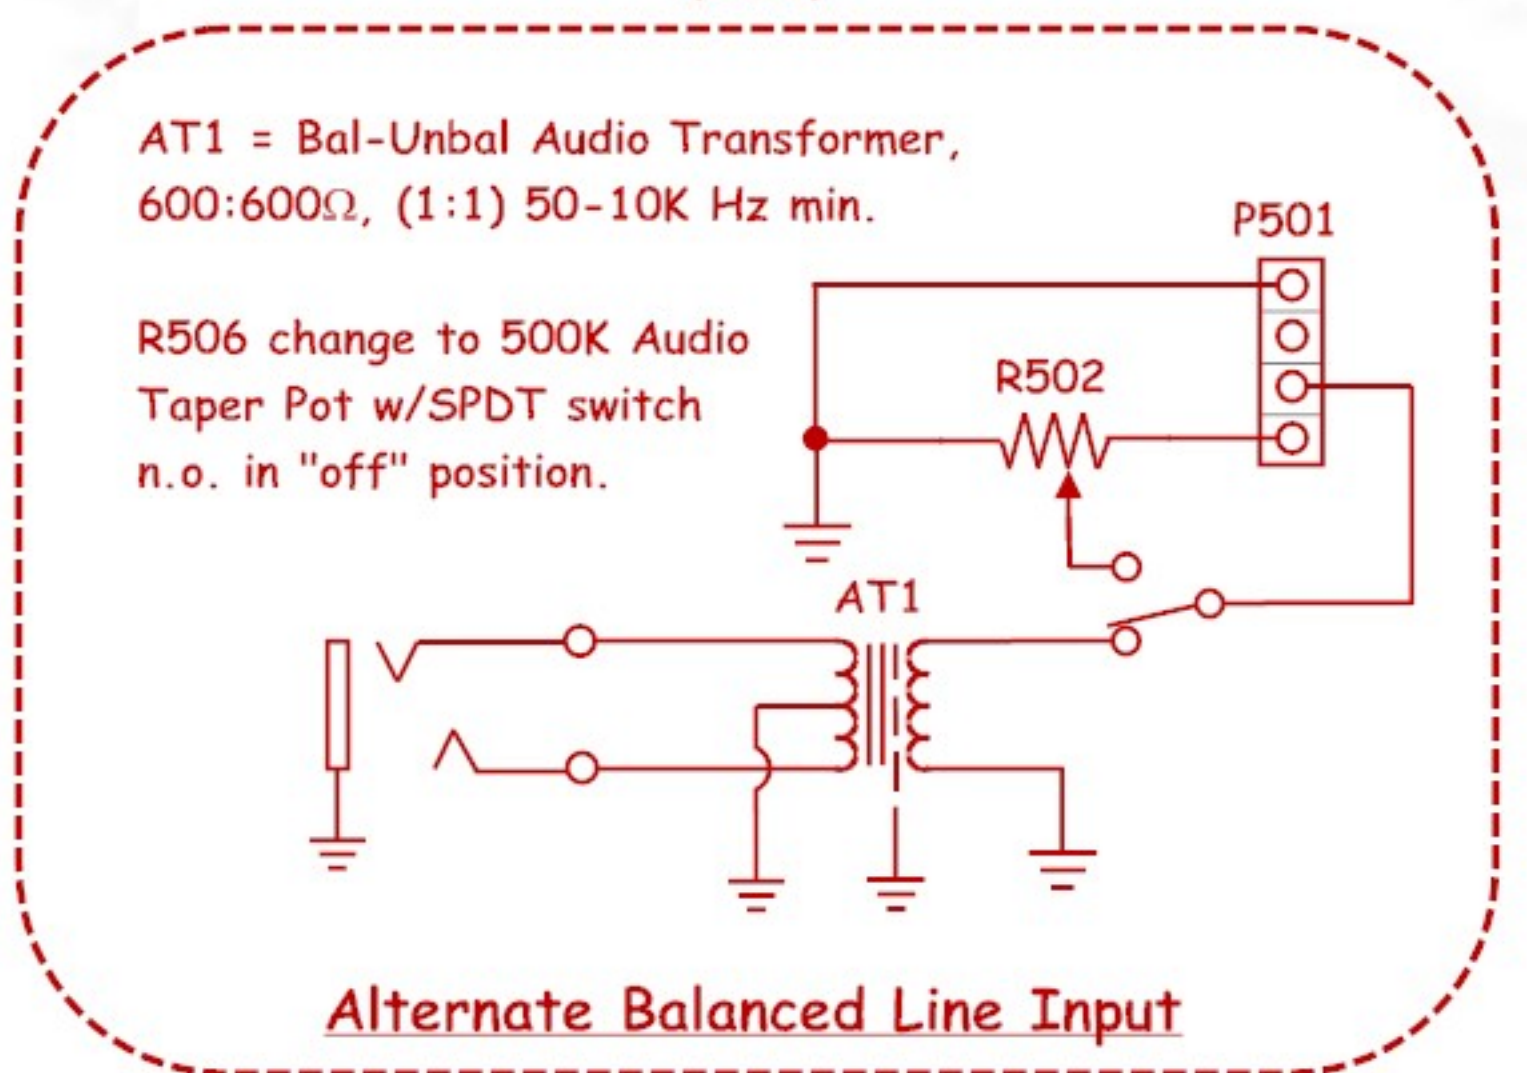

Fig. 1
5. Replace Key Jack (J507) with Normally Closed 1/2" phone jack for unbalanced line input. For unbal. line-in operation insert phone plug, and remove plug for standard stock mic operation. For balanced line-in use Normally Closed 1/2" TRS (headphone type) phone jack. See Fig. 1 for associated circuit.